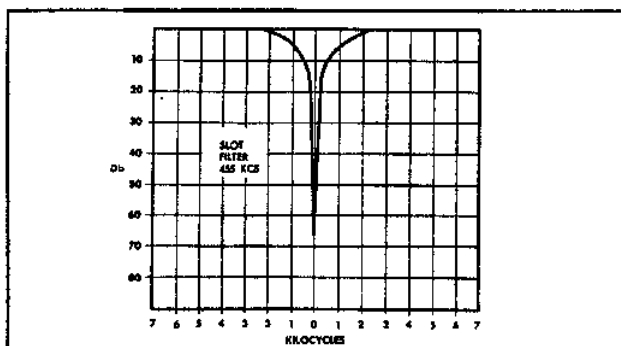

Figure 7. Slot Filter Response Curve
*** The Slot Frequency control provides an extremely sharp adjustable slot or hole in the selectivity curve (See Figure 7). It is normally located outside of the passband of the 455 Kcs IF Amplifier system. It is brought into the passband for the purpose of eliminating interference from heterodyne signals on AM and monkey chatter on SSB. On CW Reception, the Slot Filter
The output circuit of the first 455 Kcs IF amplifier consists of two IF transformers T9 and T10 which are interconnected by means of a network of resistors, capacitors, and coils comprising the Slot Filter section. This low-impedance network forms a balanced bridge arrangement known as a Bifilar "T" trap. The slot filter inductor L3 and slot tuning capacitor C22 (with capacitors C20, and C21) form a tuned circuit which presents a very high impedance to signals passing through at the resonant frequency (See Figure 7). Resistive balance is controlled by the Slot Depth potentiometer R21.